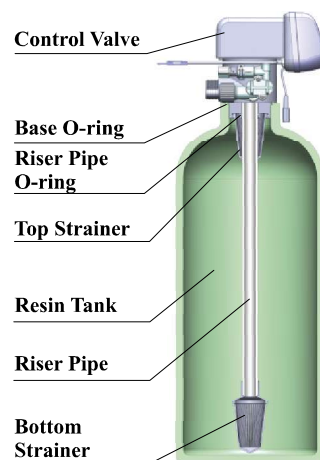

Figure 1-1
- ①The filter or softener should be located close to drain.
- ②Ensure the unit is installed in enough space for operating and maintenance.
- ③Brine tank needs to be close to softener.
- ④The unit should be kept away the heater, and not be exposed outdoor. Sunshine or rain will cause the system damage.
- ⑤Avoid installing the system in circumstance of acid/alkaline, magnetic or strong vibration, because above factors will cause the system disorder.
⑥ Do not install the filter or softener, drain pipeline or overflow pipe in circumstance where temperature may drop below 5°C, or above 50°C.
⑦ Install the system in the place where with the minimum loss in case of water leakage.
① Install control valve
a. As the Figure 1-1 shows, select the riser pipe with 26.7mm OD, glue the riser pipe to the bottom strainer and put it into the resin tank, cut off the exceeding pipe out of tank top opening and make external rounding.